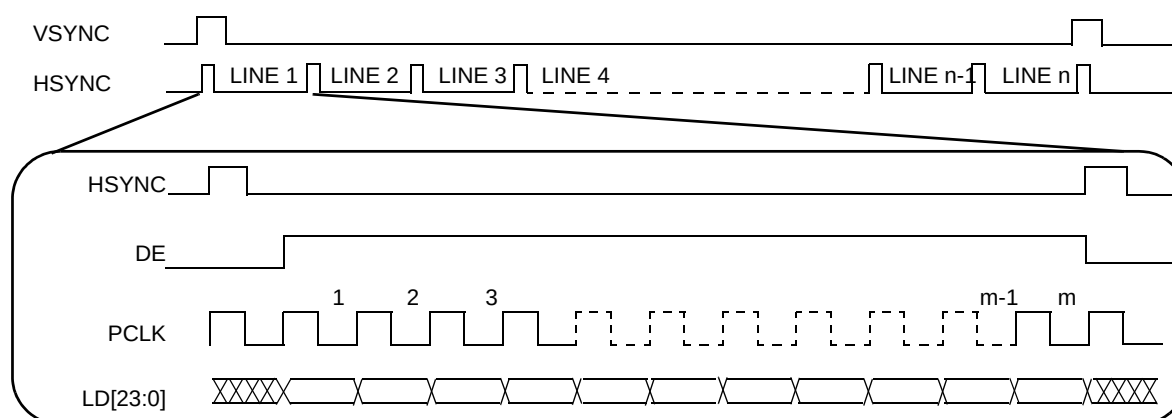

Figure 22. TFT LCD interface timing overview1
Figure 22 depicts the LCD interface timing for a generic active matrix color TFT panel. In this figure signals are shown with positive polarity. The sequence of events for active matrix interface timing is:
1. In Figure 22, the “LD[23:0]” signal is “line data,” an aggregation of the DCU’s RGB signals—R[0:7], G[0:7] and B[0:7].